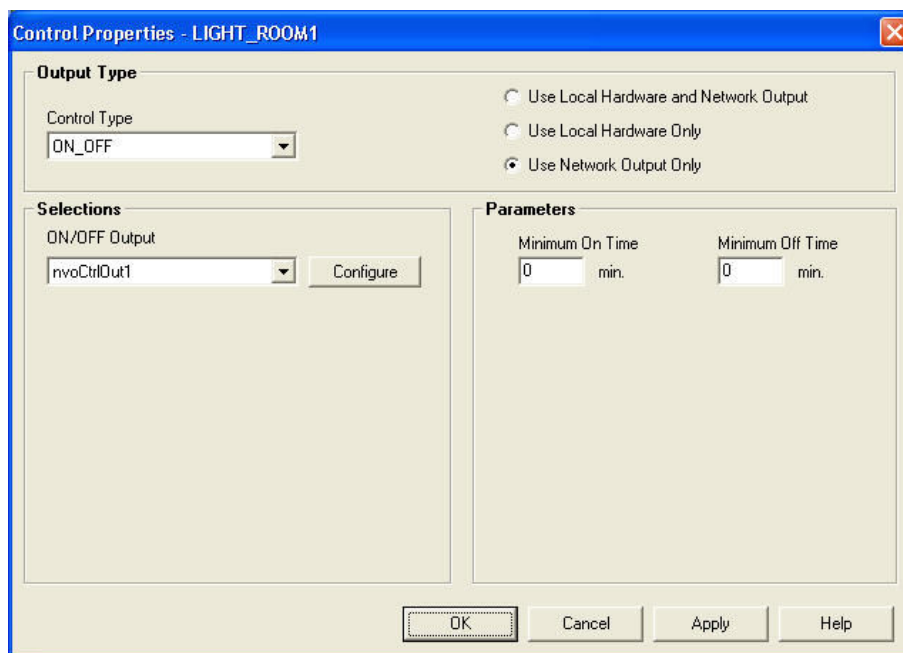

Figure 19: Control Properties Networked Lighting
17. Select LIGHT_ROOM1 from the third Equipment Type drop-down menu. The Control Properties window opens (Figure 19).